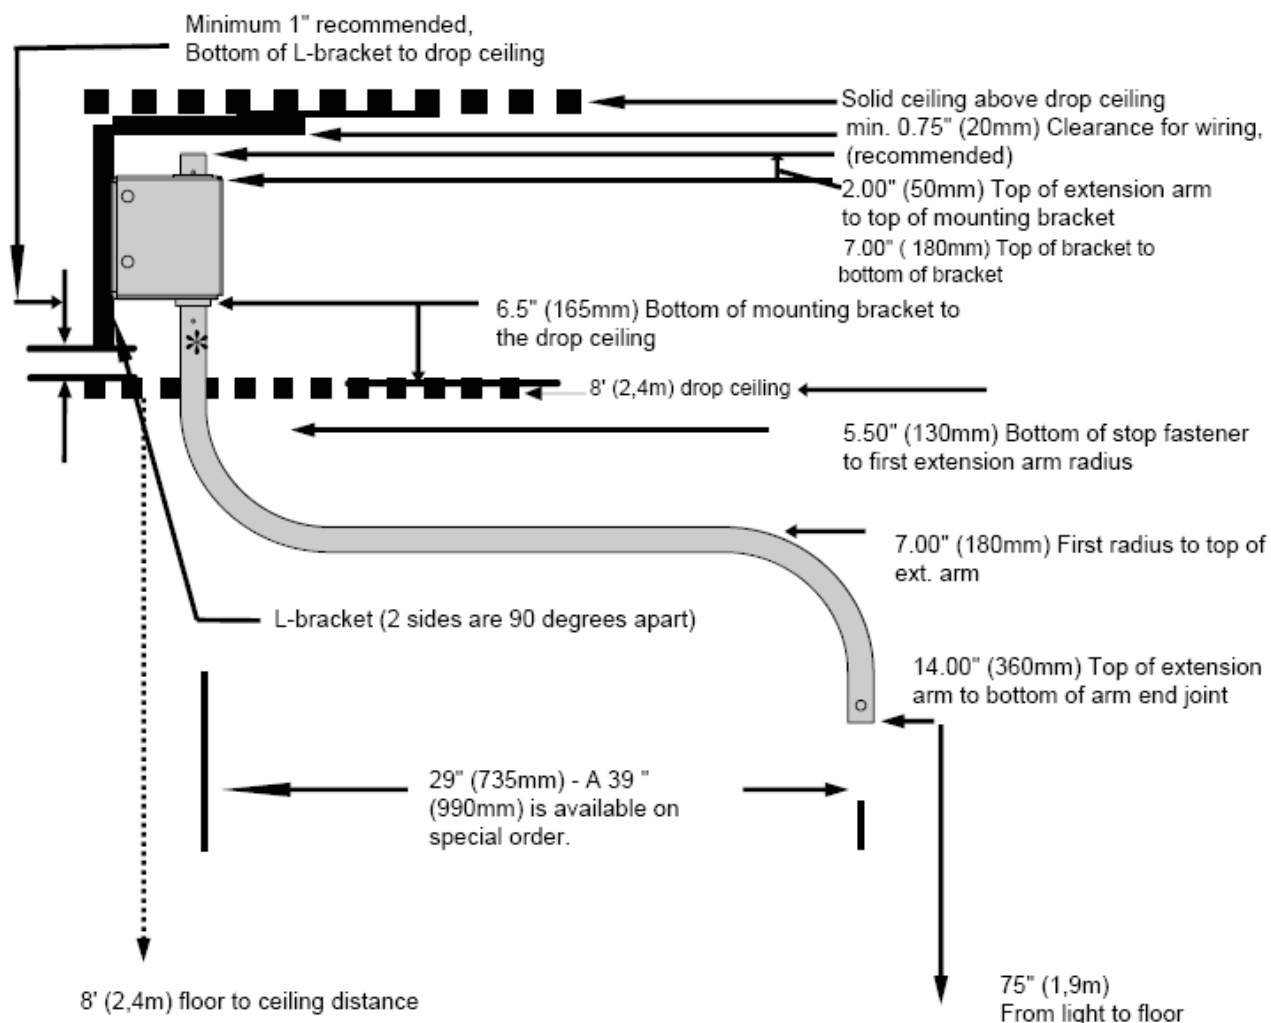

Figure 4: Mounting with an angle L-bracket (Celestial Star MRI Ceiling)
Refer to Figure 4 for dimensions
* The suggested floor-to-(fixed) ceiling height is 9' (2.7m). While an 8' (2.4m) minimum is acceptable, it will affect head clearance for tall people. For ceiling heights over 9' please see below for instructions. Please refer to Figure 4 for mounting height guidelines.
For illustrations please refer to Figure 4 and 5. Attach the extension arm to the ceiling prior to connecting the balance arm to the extension arm. The balance arm will easily be attached when the extension arm is properly secured in the ceiling.
It is to be noted that 6' 3" (1,9 m) is the recommended distance from the bottom of extension arm to floor. A lower installation height may affect head clearance for tall people and a higher installation height may affect the reach of the light and the user. However, it is up to the user to determine the most appropriate mounting height. The following table can be used to determine where to mount the transformer bracket relative to the drop ceiling. The recommended minimum is 2". The distance 'B' in Table 1 should be chosen depending on the requirements of the end user. The distance between drop ceiling and solid ceiling should also be considered. If no drop ceiling is present, please refer to Figure 4 for the appropriate mounting height.